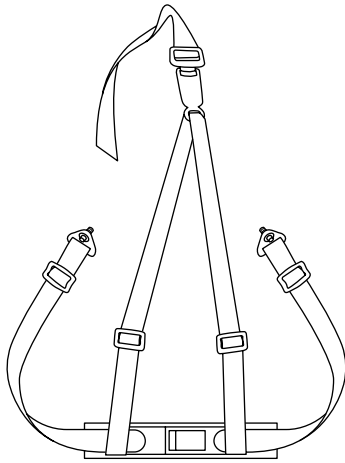

Figure 4-13:
- ✔ Three straps (as shown in Figure 4-13)